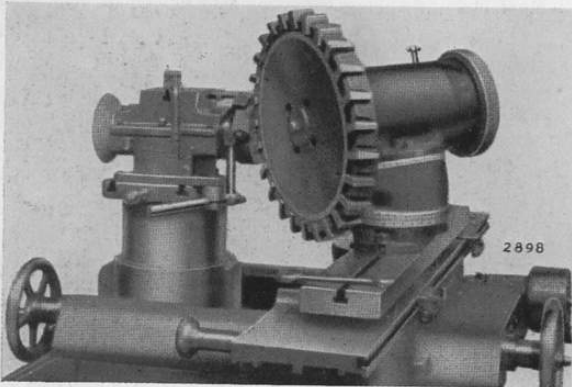

**Fig. 69**
8. Shape the wheel slightly convex. (See Fig. 69)
9. Set the tooth rest blade in position as illustrated in Fig. 69, using the offset blade.